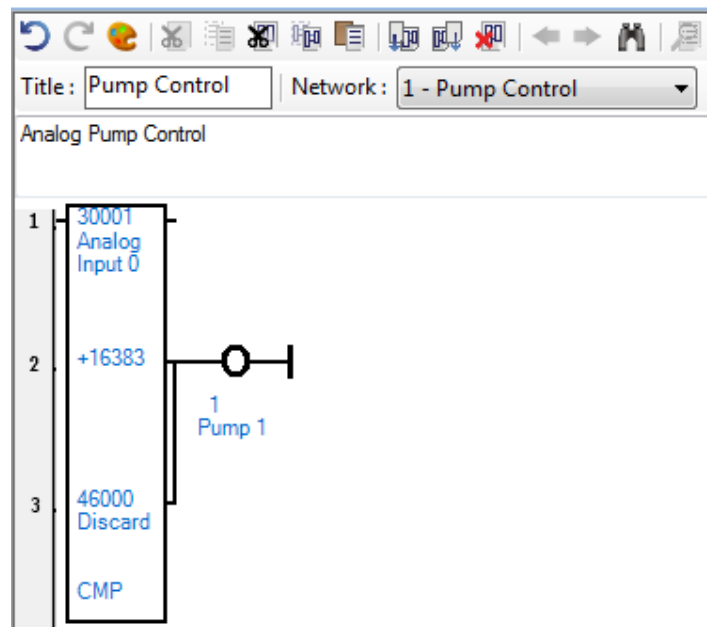

Figure 33: CMP Function Block
- Select the **CMP** function from the function list and configure the function as shown in Figure 33.